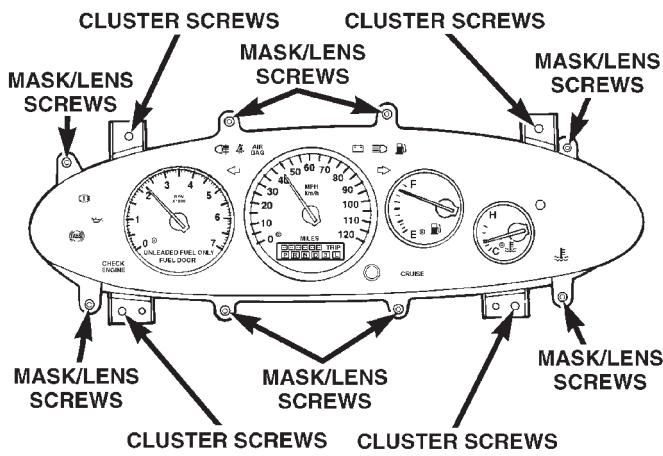

Fig. 11 Mask/Lens Retaining Screws
- (1) Remove mask/lens retaining screws and remove mask/lens (Fig. 11).
- (1) Remove instrument cluster hood, refer to Cluster Hood Removal and Installation procedures.
- (2) Remove the four cluster attaching screws (Fig. 11).
- (3) Remove instrument cluster and disconnect wire connectors from instrument panel by pulling cluster rearward.